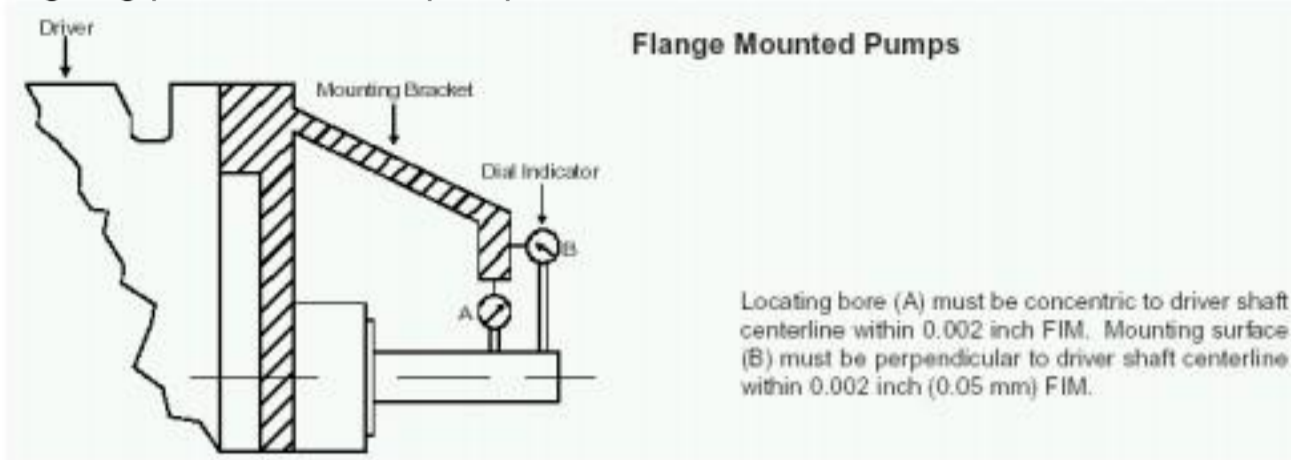

Figure 5 - Alignment of Flange Mounted Pumps
D.6.4 Aligning Flange Mounted Pumps and Drivers - See Figure 5